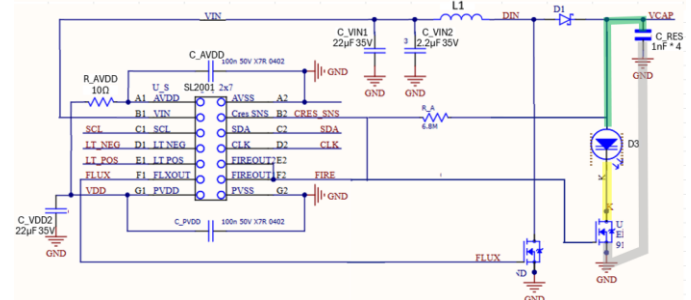

Figure 2: Schematic path for Laser Firing Loop
1. Laser Firing Loop: The most important layout consideration in order to achieve a high laser light power peak with a short pulse width is to reduce the parasitic high frequency impedance in the loop made up of the Cres capacitors, Fire FET and laser. Figure 2 highlights this path in the schematic.